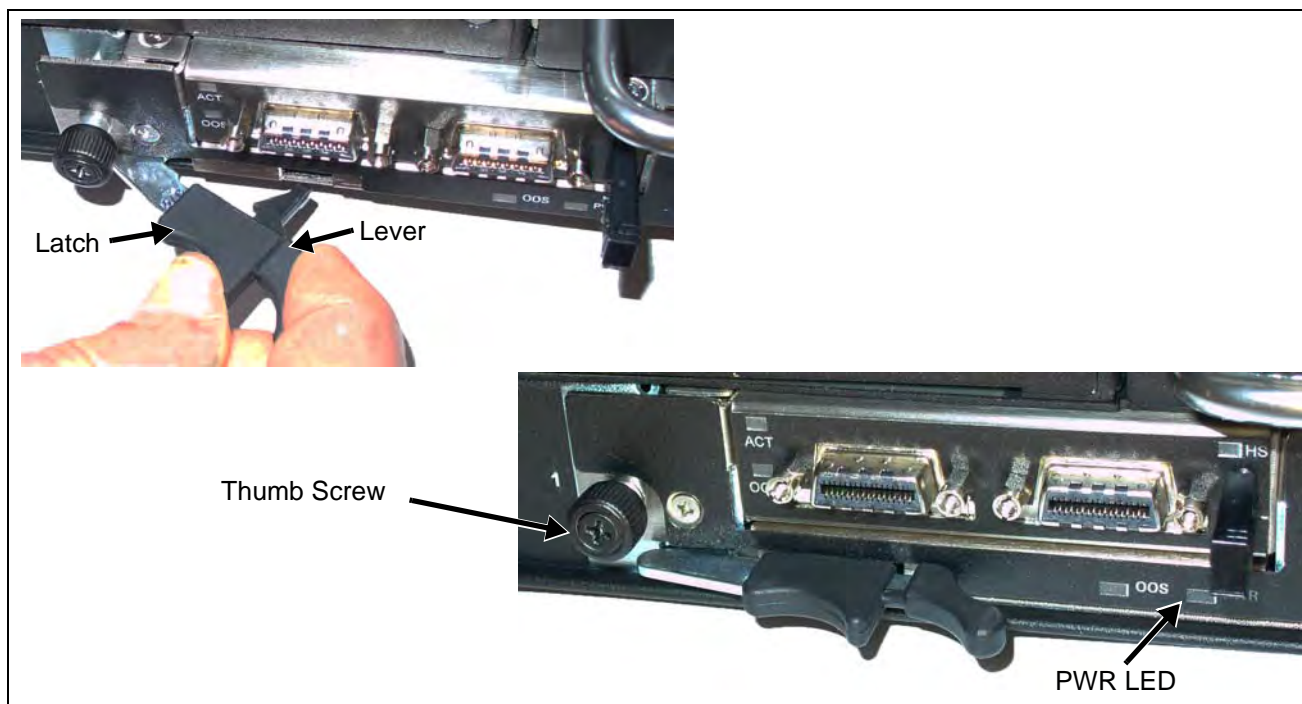

Figure C.17 - IAP100 Insertion
| 2. | While squeezing the handle's lever and latch together, close the left and right ejector handles until the inner sides of the ejector handles are attached to the faceplate (Figure C.17). |
3. Verify that the PWR LED is GREEN, indicating that the IAP100 is receiving power (**Figure C.17**).